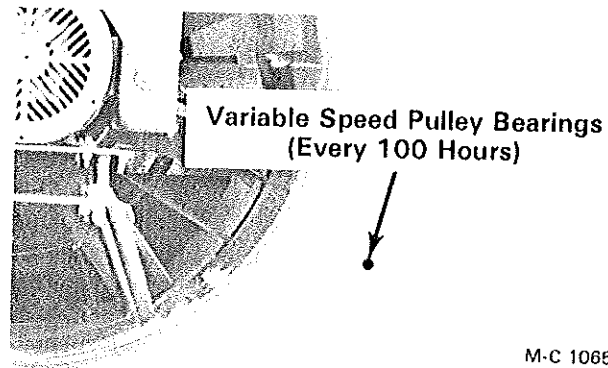

Figure 26
1. Lubricate the variable speed pulley shaft bearings **sparingly**, see Figure 26.